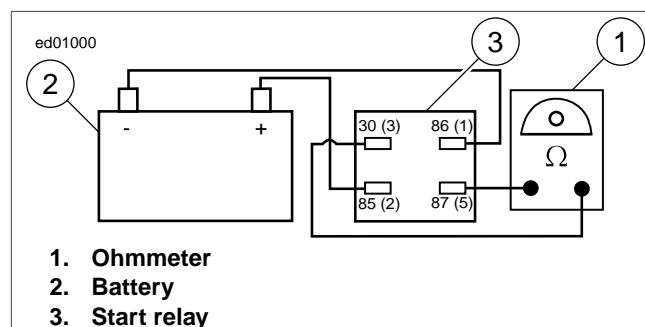
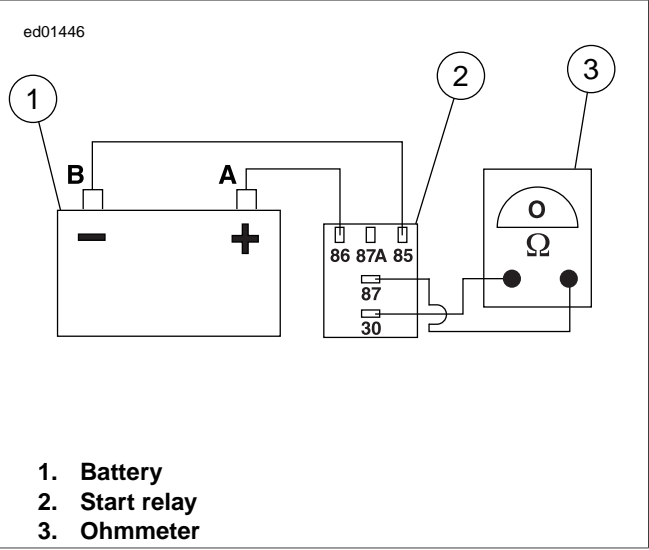

Figure 1-33. Four Terminal Relay Test
Figure 1-34. Five Terminal Relay Test
- See Figure 1-33 and Figure 1-34 to energize the relay. Connect relay terminal 85 to the negative battery terminal and relay terminal 86 to the positive battery terminal.